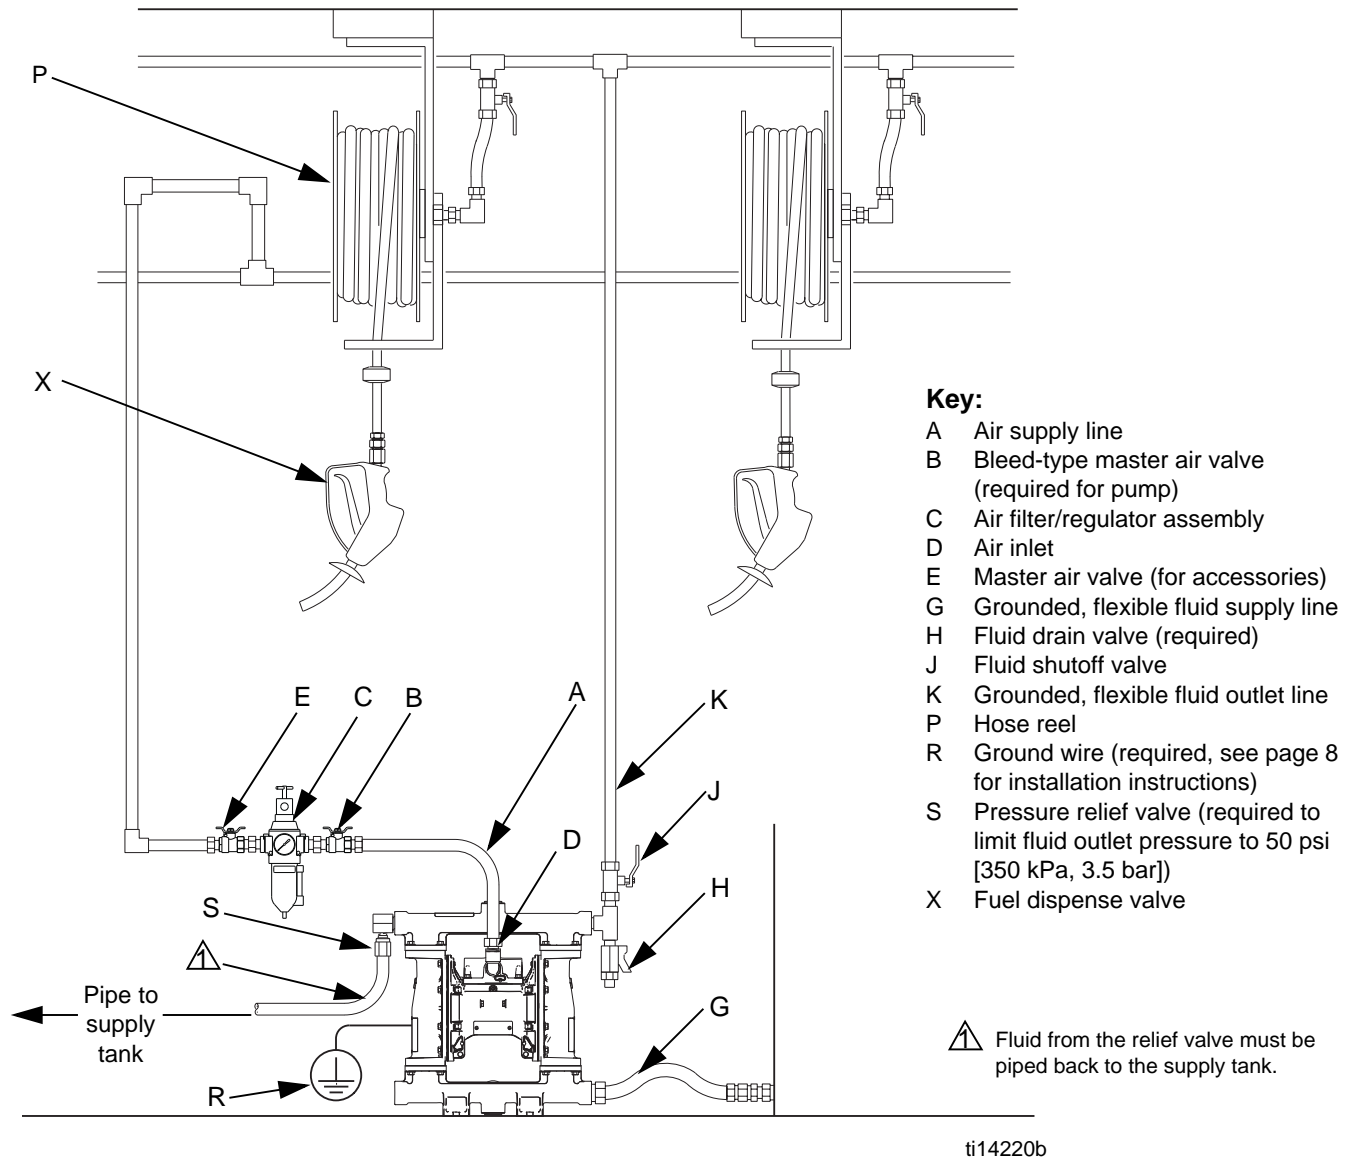

FIG. 5. Fuel dispense, typical installation
- The Typical Installations shown in FIG. 3 through FIG. 5 are only guides for selecting and installing system components. Contact your Graco distributor for assistance in planning a system to suit your needs.
Install the air line accessories as shown in FIG. 3 through FIG. 5. Mount these accessories on the wall or on a bracket. Be sure the air line supplying the accessories is grounded.
See FIG. 3 through FIG. 5, pages 11 through 13.
6. For a Fuel Dispense System, connect a fluid supply line (G) to the fluid inlet. See FIG. 5, page 13.
See FIG. 5.